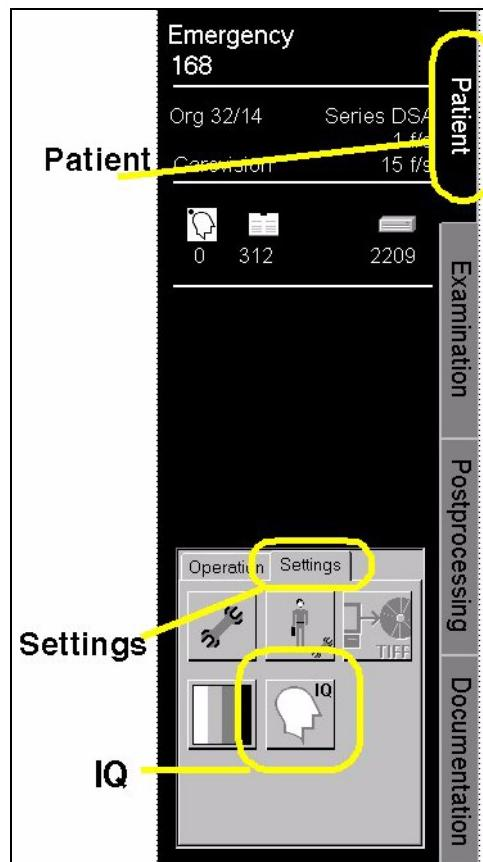

Fig. 2
- Select the "Patient" task card and the "Settings" sub task card and press the "IQ" button (Fig. 2).